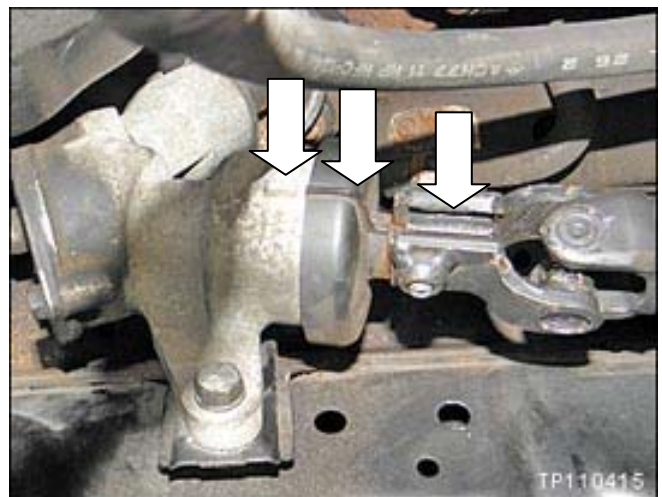

Figure SS5
NOTE: The marks shown in Figure SS5 should be aligned.
- Make sure shaft end at the steering gear assembly is aligned correctly (see Figure SS5 on page 43).